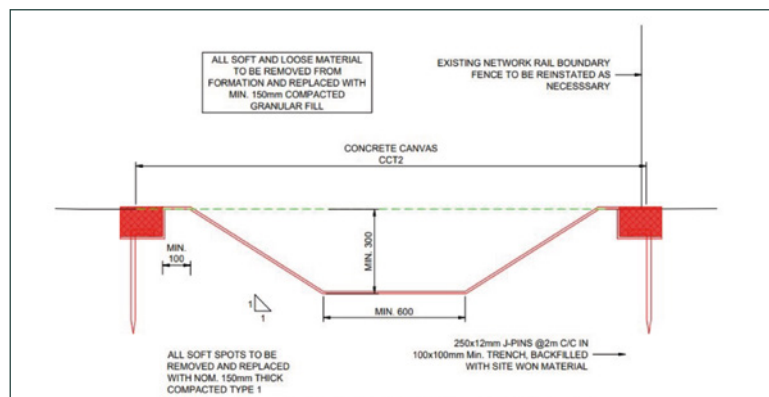

Figure 18: Typical section of concrete canvas lined crest ditch (extract from NR Doc. No.: 3376-MHB-REP-001).
- 600m of lined crest ditches (**Figure 18**, overleaf)